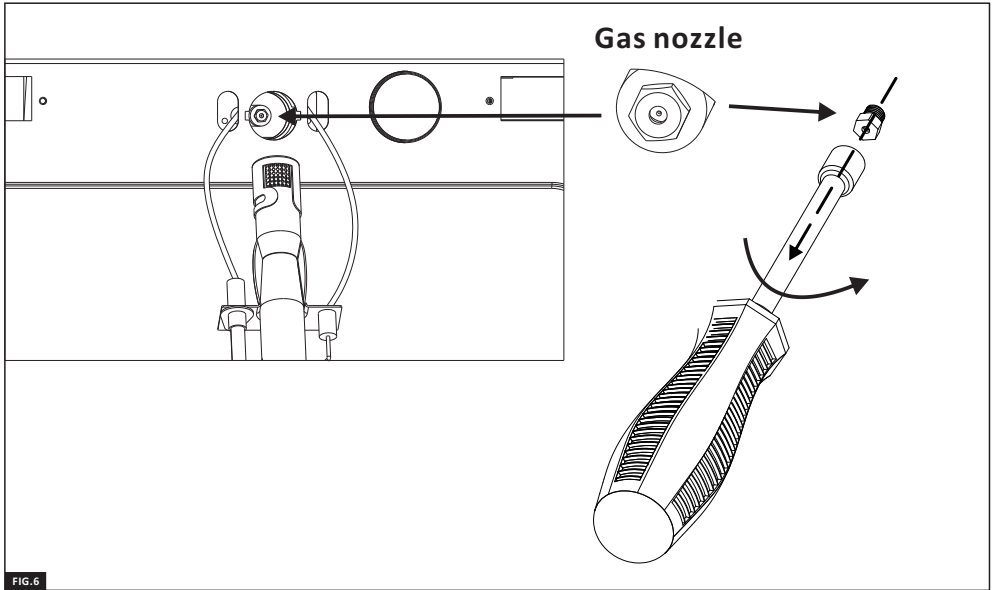

FIG.6
- Gently support the burner (Fig. 6). Avoid damaging the ignition wire and safety valve probe.